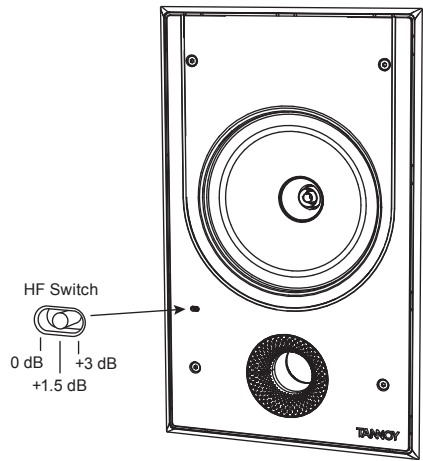

Fig. 4. HF Switch
- 2. The HF switch has three positions, with 0 dB being flat. Adjust as necessary to suit the room position and acoustic conditions (Fig. 4).